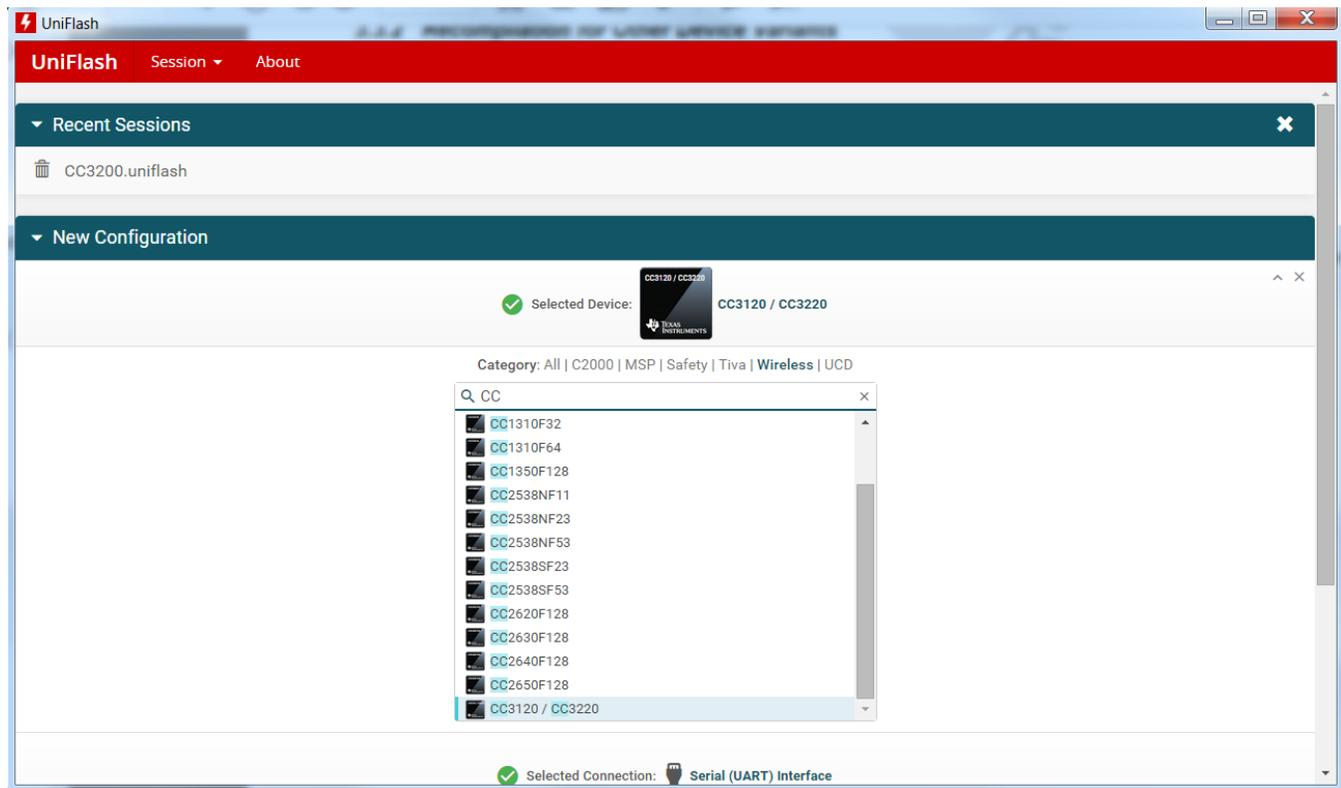

Figure 2-5. UniFlash – Select Device
2. Select **CC3120 / CC3220** from the list of devices (you may type **CC3...** to the search tab to filter out other devices). See Figure 2-5.